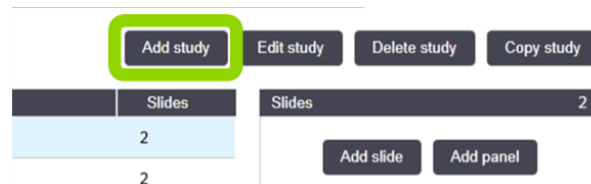

Figure 39: Add study button
- Click the **Add study** button (see Figure 39).